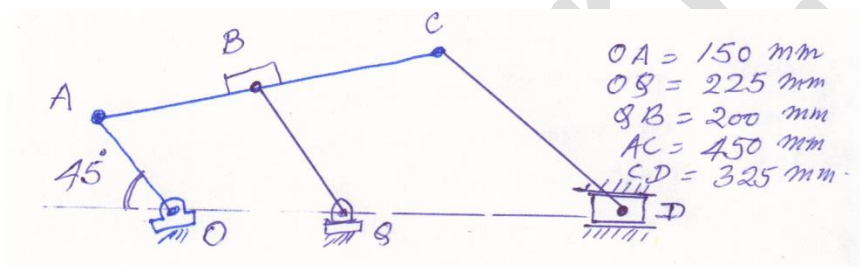

Figure 1
1. In the mechanism shown in figure 1, find the velocity of slider D by instantaneous center method. Link OA is rotating at 1000 rpm in clockwise direction. [20]